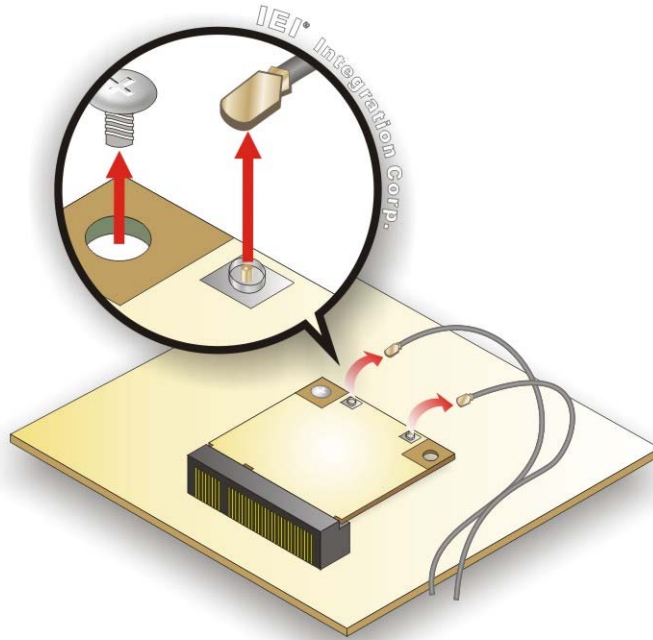

Figure 5-2: Releasing the WLAN Module
Step 5: Disconnect the antenna cables on the WLAN module and remove the retention screw to release the WLAN card (**Figure 5-2**).